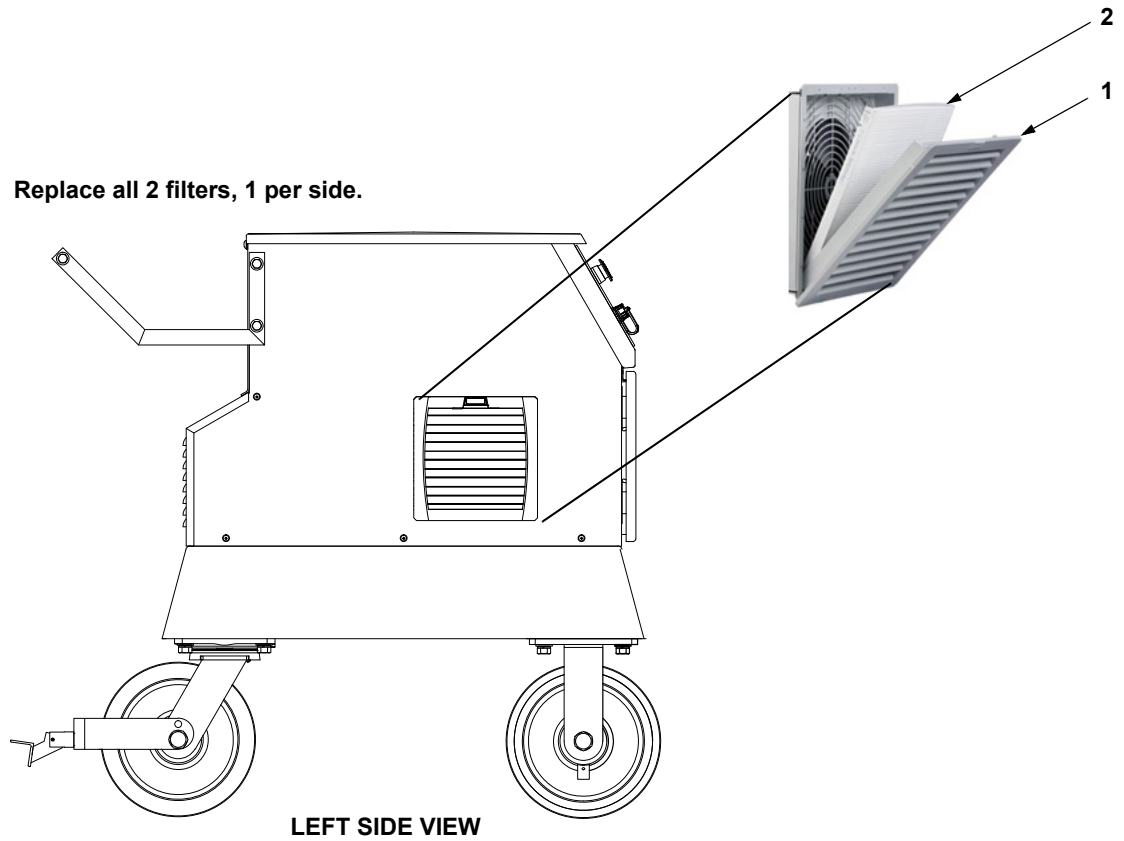

Figure 16. Air Filter Replacement
**NOTE:** Location of filters are shown in Figure 16; there are a total of two (2) filters, one on each side of unit.
1. Grasp the upper edge of the louvered filter outside cover (1) and pull outward to expose the filter mat (2).